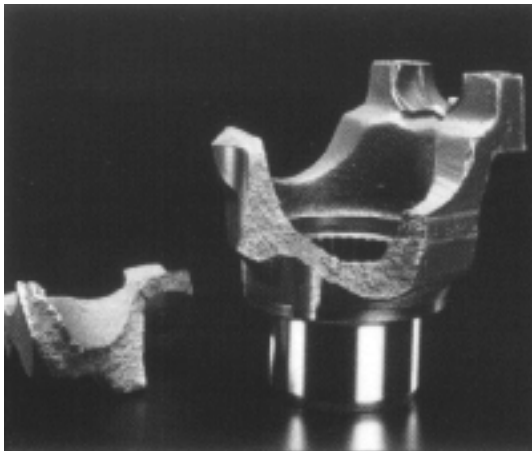

Figure 17—Broken Yoke
- Yoke broken at ear tip. **Figure 17.**